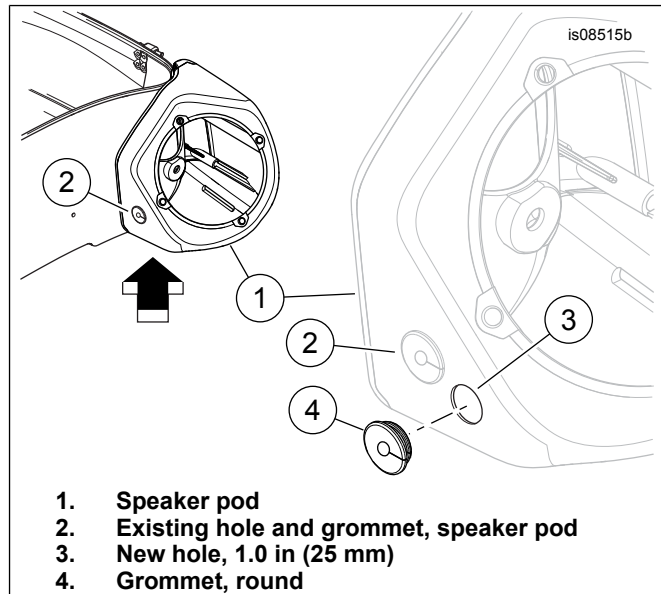

Figure 1. Grommet Installation
4. See Figure 1. Drill a **new** 25 mm (1.0 in) hole (3) in each speaker pod (1), away from the existing grommet (2), approximately where shown.